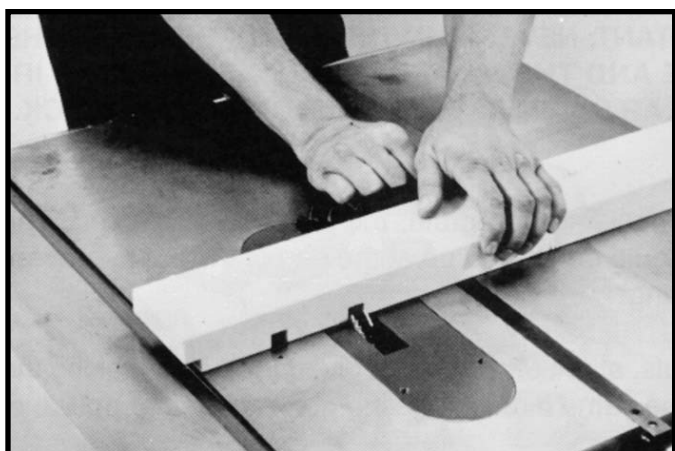

Fig. 140
3. Fig. 140 shows a typical dado operation using the miter gage as a guide.